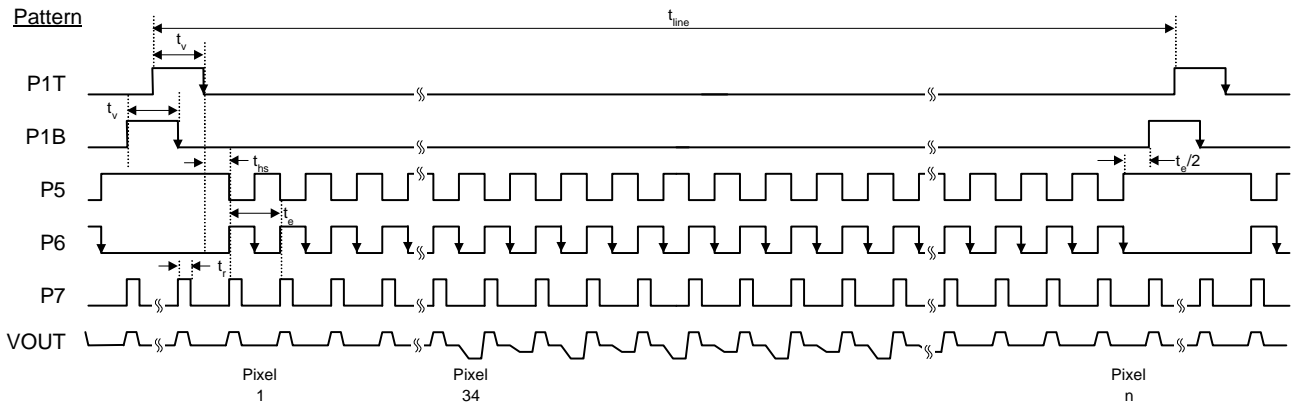
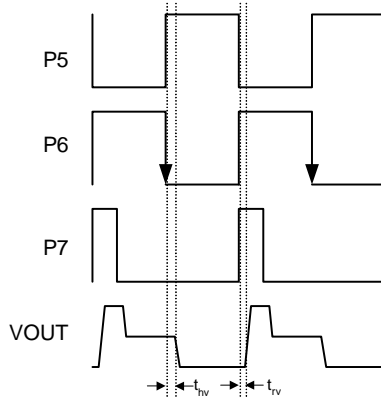
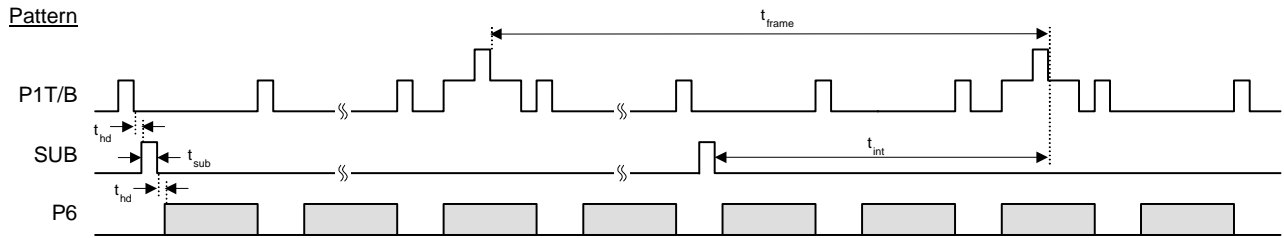
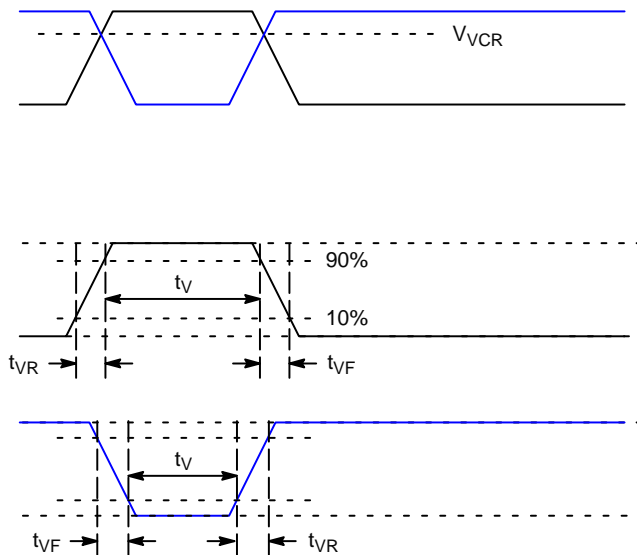

**Figure 24. Photodiode Transfer Timing**
Figure 26. Pixel Timing Detail
Figure 27. Frame/Electronic Shutter Timing
Figure 28. VCCD Clock Edge Alignment
1. Refer to timing diagrams as shown in Figure 24, Figure 25, Figure 26, Figure 27 and Figure 28.
2. Refer to Figure 28: VCCD Clock Edge Alignment.
The timing sequence for the clocked device pins may be represented as one of seven patterns (P1–P7) as shown in the table below. The patterns are defined in Figure 24 and